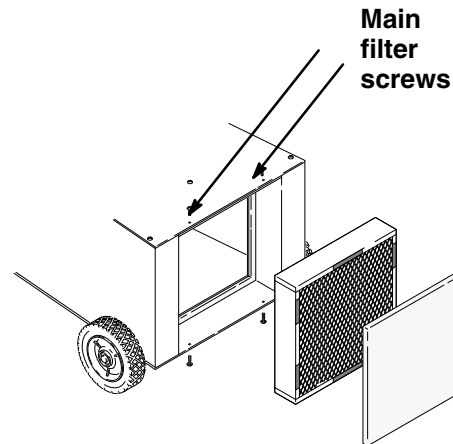

Fig. 5 System 12 Turbine shown
2. Loosen the four main filter screws. See Fig. 5.